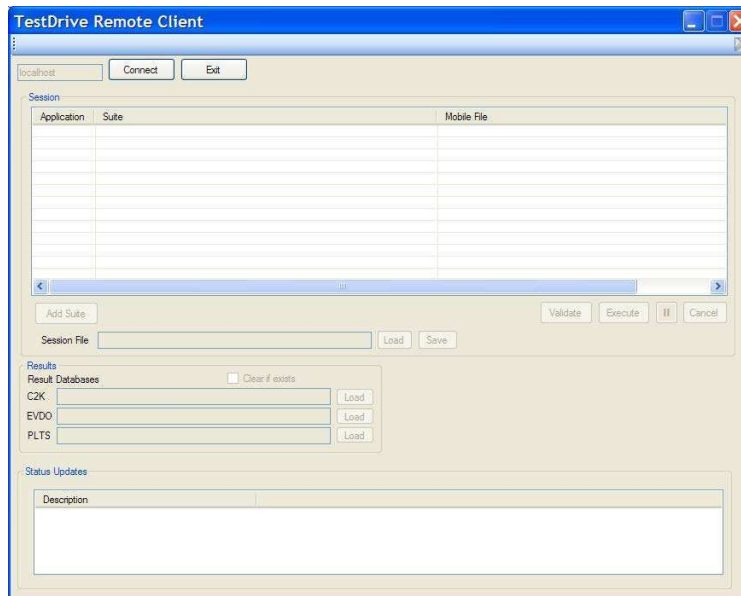

Figure 4-28. TestDrive Remote Client Window
The TestDrive Remote Client is a utility used to control TASKIT C2K, TestDrive EV-DO, and TASKIT PLTS systems at the same time. The Client window is shown in Figure 4-28. The client allows you to configure the different applications, and configure long-running automated sessions.
2. Start the Client. The *TestDrive Data Client* window displays, as shown in Figure 4-28.